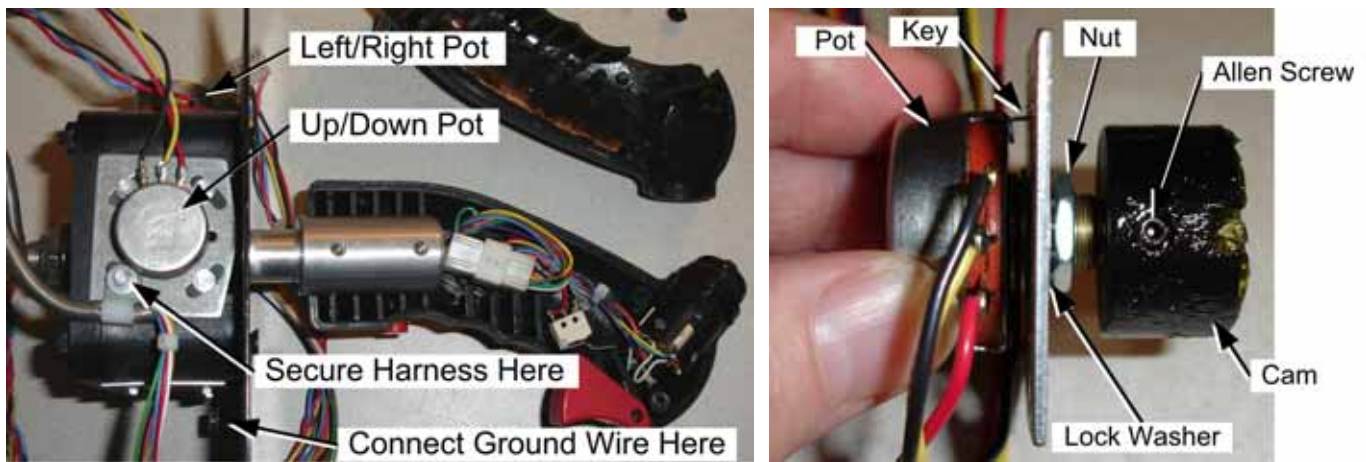

Figure 15. Joystick Assembly Details
1. Remove the four (4) Torx security screws from the left side of the assembly, and remove the left half of the grip assembly (see Figure 15).
The joystick uses two pots (potentiometers) to relay its position to the software. Refer to Figure 15 and perform the steps below to replace a pot. See page 46 for an exploded-view drawing.
2. Determine which pot to replace. The pot on the side reads the Up/Down motion. The pot on the front reads Left/Right, as shown in Figure 15.
3. Make a note of the orientation of the pot and mounting plate; the mounting plate is mounted with the straight side up for the Left/Right pot, and the angled side up for the Up/Down pot. The pot has a small metal tab (key) that fits into a small hole in the plate. One of the mounting screws is also used to secure the joystick harness, as shown in Figure 15.
4. Use a 3/16" socket or small Phillips screwdriver to remove the four (4) screws that secure the pot mounting plate to the joystick assembly, and remove the pot and mounting plate assembly.